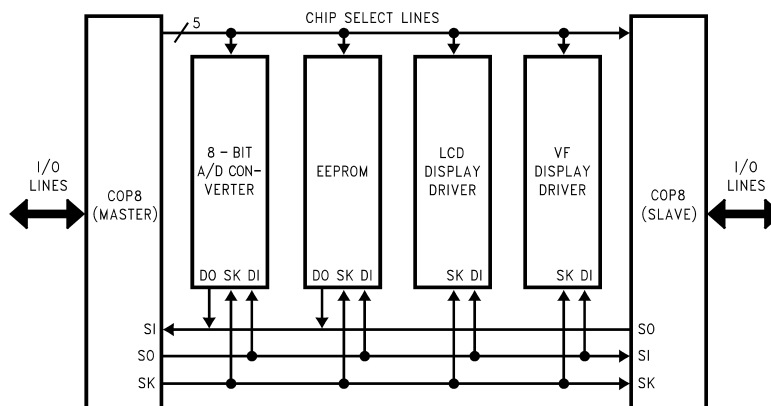

Figure 36. MICROWIRE/PLUS Application
MICROWIRE/PLUS is a serial SPI compatible synchronous communications interface. The MICROWIRE/PLUS capability enables the device to interface with MICROWIRE/PLUS or SPI peripherals (i.e. A/D converters, display drivers, EEPROMs etc.) and with other microcontrollers which support the MICROWIRE/PLUS or SPI interface. It consists of an 8-bit serial shift register (SIO) with serial data input (SI), serial data output (SO) and serial shift clock (SK). Figure 36 shows a block diagram of the MICROWIRE/PLUS logic.
Setting the BUSY bit in the PSW register causes the MICROWIRE/PLUS to start shifting the data. It gets reset when eight data bits have been shifted. The user may reset the BUSY bit by software to allow less than 8 bits to shift. If enabled, an interrupt is generated when eight data bits have been shifted. The device may enter the MICROWIRE/PLUS mode either as a Master or as a Slave. Figure 36 shows how two microcontroller devices and several peripherals may be interconnected using the MICROWIRE/PLUS arrangements.